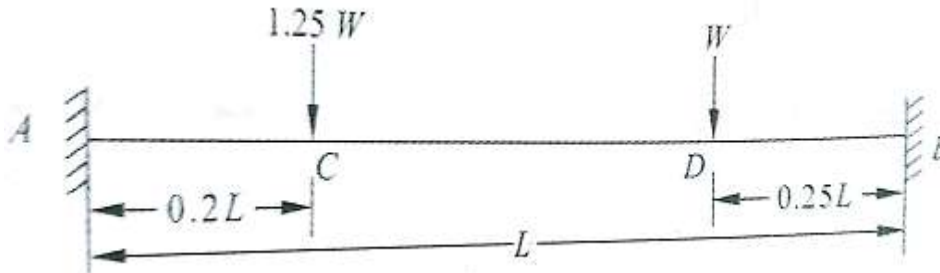

Figure 1
11. (a) Determine the collapse load of the beam shown in Figure 1. CO1- App (16)